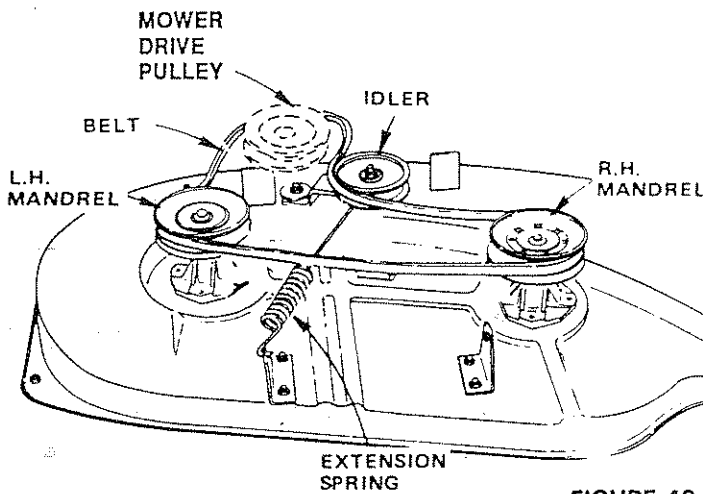

FIGURE 43
3. Roll Belt off L.H. Mandrel Pulley (fig. 43).